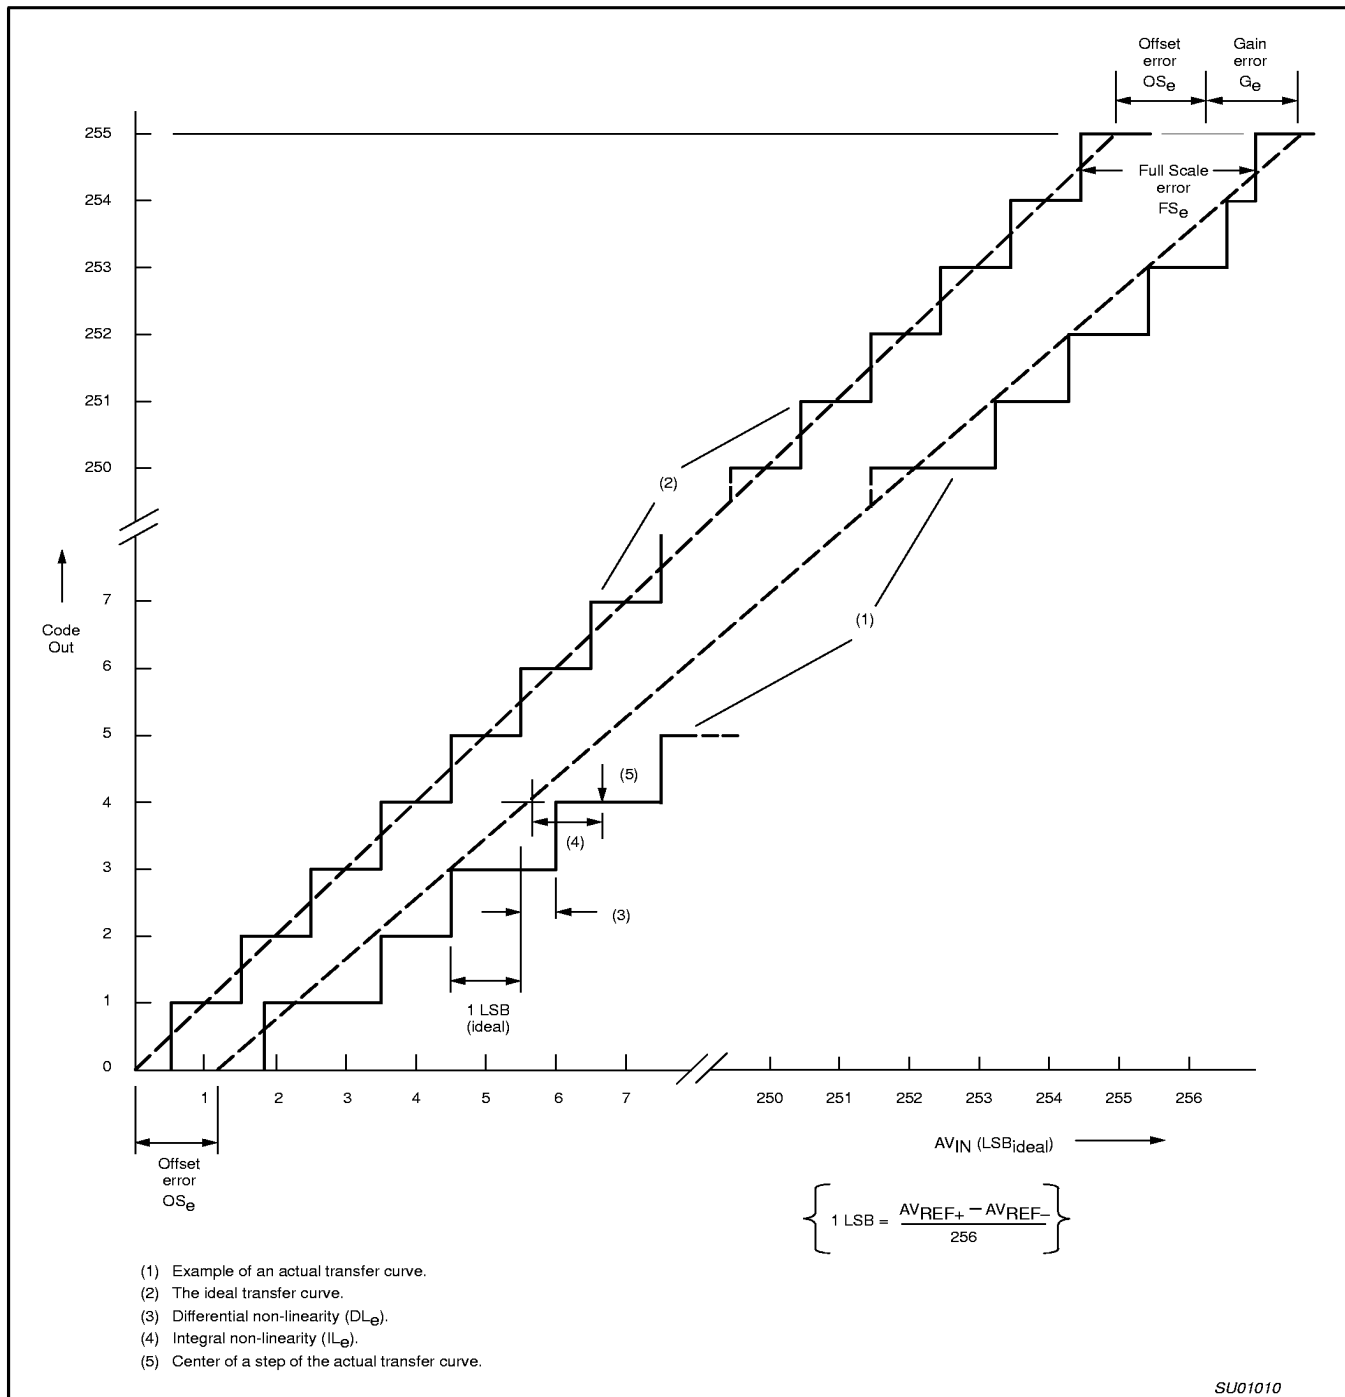

Figure 7. ADC Conversion Characteristic
2. The differential non-linearity (DL_e) is the difference between the actual step width and the ideal step width. See Figure 7.
4. The integral non-linearity (IL_e) is the peak difference between the center of the steps of the actual and the ideal transfer curve after appropriate adjustment of gain and offset errors. See Figure 7.
5. The offset error (OS_e) is the absolute difference between the straight line which fits the actual transfer curve (after removing gain error), and the straight line which fits the ideal transfer curve. See Figure 7.
6. The gain error (G_e) is the relative difference in percent between the straight line fitting the actual transfer curve (after removing offset error), and the straight line which fits the ideal transfer curve. Gain error is constant at every point on the transfer curve. See Figure 7.